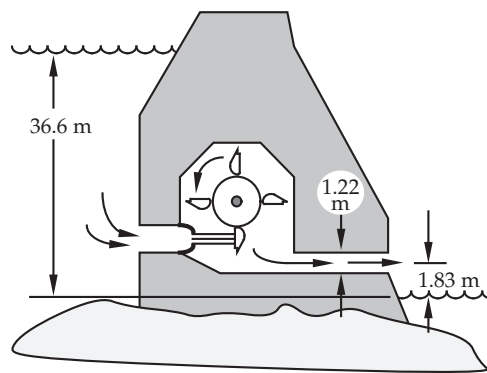

FIGURE P2.39.
39. Figure P2.39 shows a water turbine located in a dam. The volume flow rate through the system is  $0.315 \text{ m}^3/\text{s}$ . The exit pipe diameter is 1.22 m. Calculate the work done by (or power received from) the water as it flows through the dam. (Compare to the results of the example problem in this chapter.)